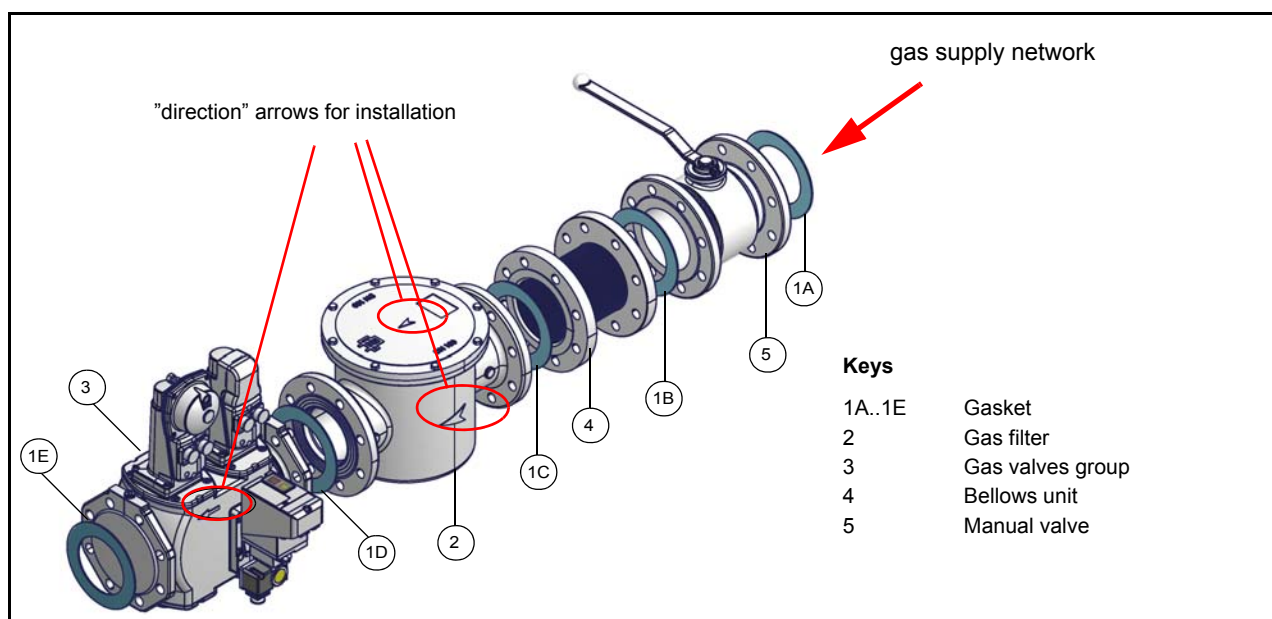

Fig. 2 - Example of gas train
- 1-b) in case of flanged joints: place a gasket (no. 1A..1E - Fig. 2) between the elements
ATTENTION: once the gas train is mounted according to the diagram on Fig. 2, the gas proving test must be performed, according to the procedure set by the laws in force.